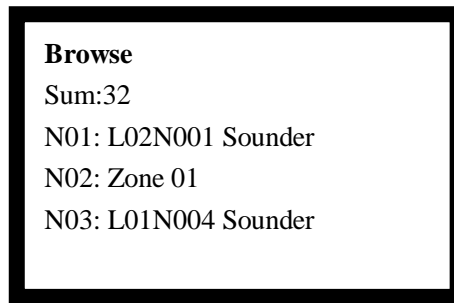

Fig. 6-8
- ✧ Entering number 6 to choose “6. Access” will enter the screen for browsing ZCP key definition, as in Fig. 6-8.